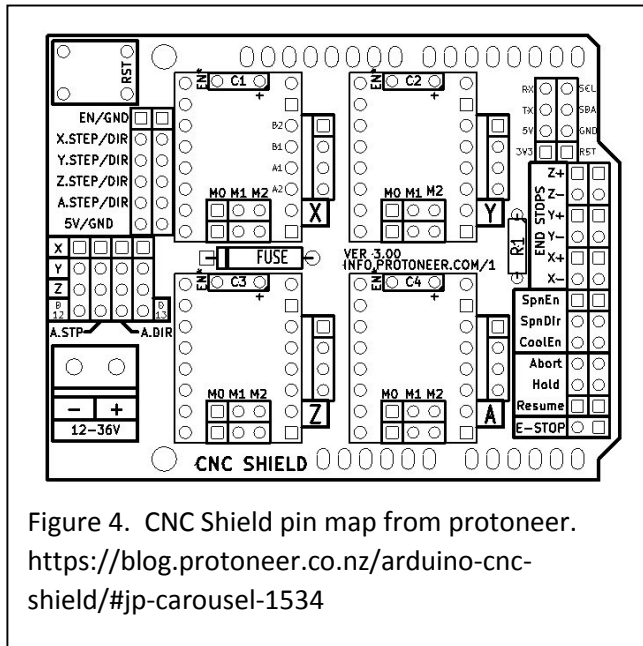

Figure 4. CNC Shield pin map from protoneer. <https://blog.protoneer.co.nz/arduino-cnc-shield/#jp-carousel-1534>
The grbl program can be set up to control the spindle in either of two ways. The default setting assumes you can control spindle speed with a pwm pin. The alternative setting assumes your spindle only has on and off settings. You can use either to control your router. If you use the default method, you will need to (1) specify a spindle speed every time you power up the tool and (2) switch the router using the Z+ end stop pin (top right in Figure 4) rather than the SpnEn pin (middle right in Figure 4). Using the alternative method, you will not need to specify a spindle speed and you will use the SpnEn pin from Figure 4 (the silkscreen on the CNC shield assumes this option). The down side is that you will need to modify the grbl code (as described in Appendix 1). We should note that specifying the speed should not be a problem when you run a bunch of G-code written by a program generated by sketchucam, which sets a spindle speed for you. It only becomes an issue if you want to turn on the motor and jog the router using the grbl panel user interface. In this case, you will need to set the spindle speed manually by typing "S1000" into the Grbl Panel manual command text box and hit enter. Once the S value has been entered, you should be able to use the spindle enable dropdown on the right side of Grbl Panel to turn the spindle on and off.
Figure 6. Wiring schematic. When switch at the top left is closed, all 24 volt DC electronics power up and the spindle lamp turns on. Power is supplied to the router and shop-vac on outlet 2 when Spin Enable pin is high. Note that the identity of the Spin Enable pin is either labeled Z+ or SpnEn in Figure 4, depending on whether VARIABLE_SPINDLE is enabled in grbl.